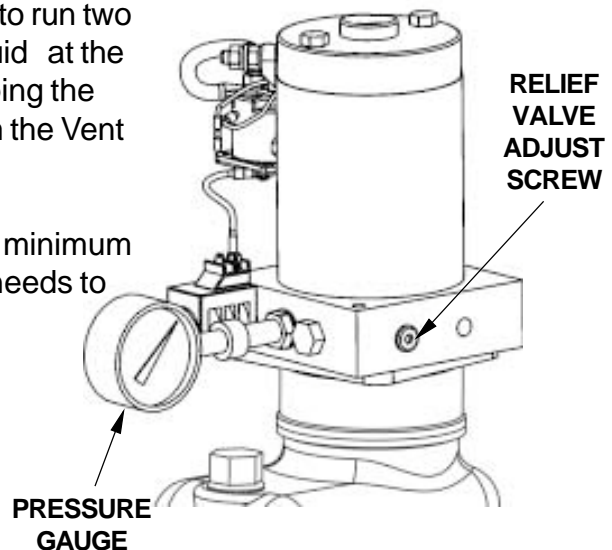

FIG. 46-2
3. With Platform on the ground, remove the pressure hose and fitting from the Pump and replace it with a 0-3000 PSI Pressure Gauge. Hold the switch in the "UP" position. Adjust the Relief Valve on the side of the Pump until the gauge shows 2800 to 3000 PSI (**FIG. 46-2**). Remove gauge and re-install pressure hose.